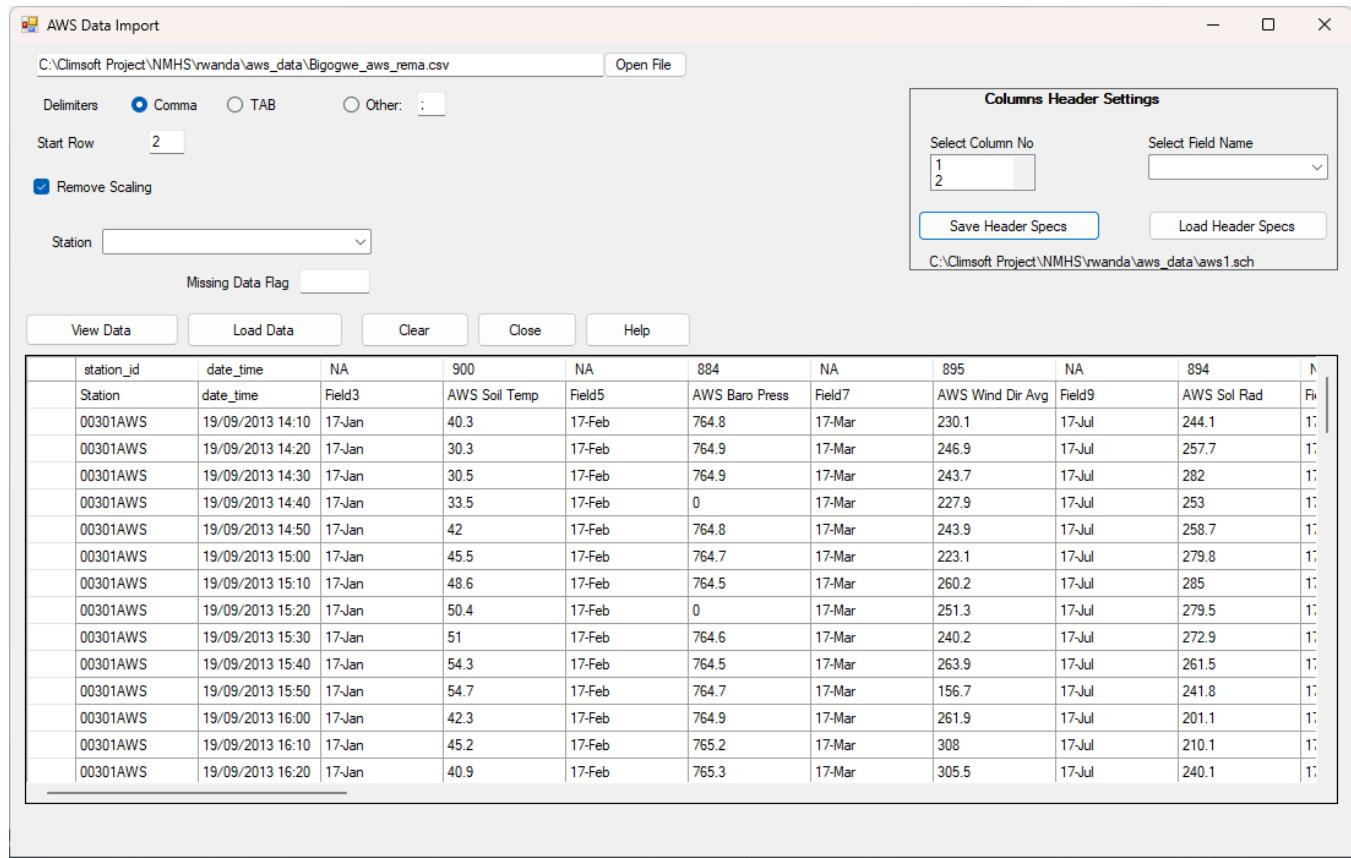

Figure 56: Configured column headers
- (ii) If the step (i) above is correctly completed, then the configured header specifications can be saved in a text file to be used later in importing a similar file without going through that process again. To save the specifications click “**Save Header Specs**” button and choose a convenient location (i.e. folder) and filename. Note that the file will be automatically allocated file extension of **sch** e.g. **aws1.csh** and the file with its path displayed below that button. See *Figure 56*,